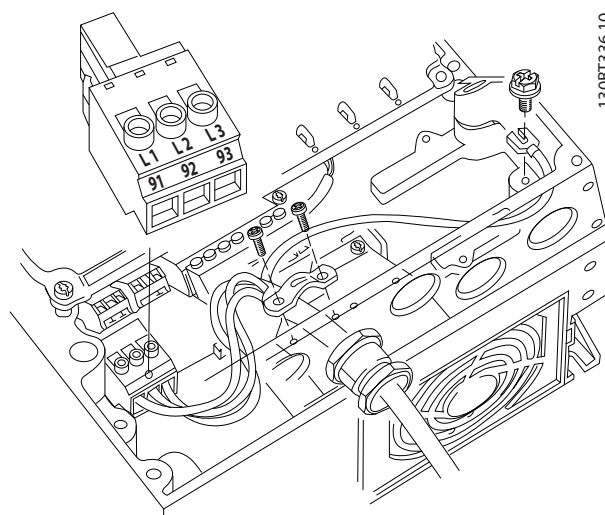

Figure 2.16 Connecting to AC Line Power
- Connect 3-phase AC input power wiring to terminals L1, L2, and L3 (see *Figure 2.16*).